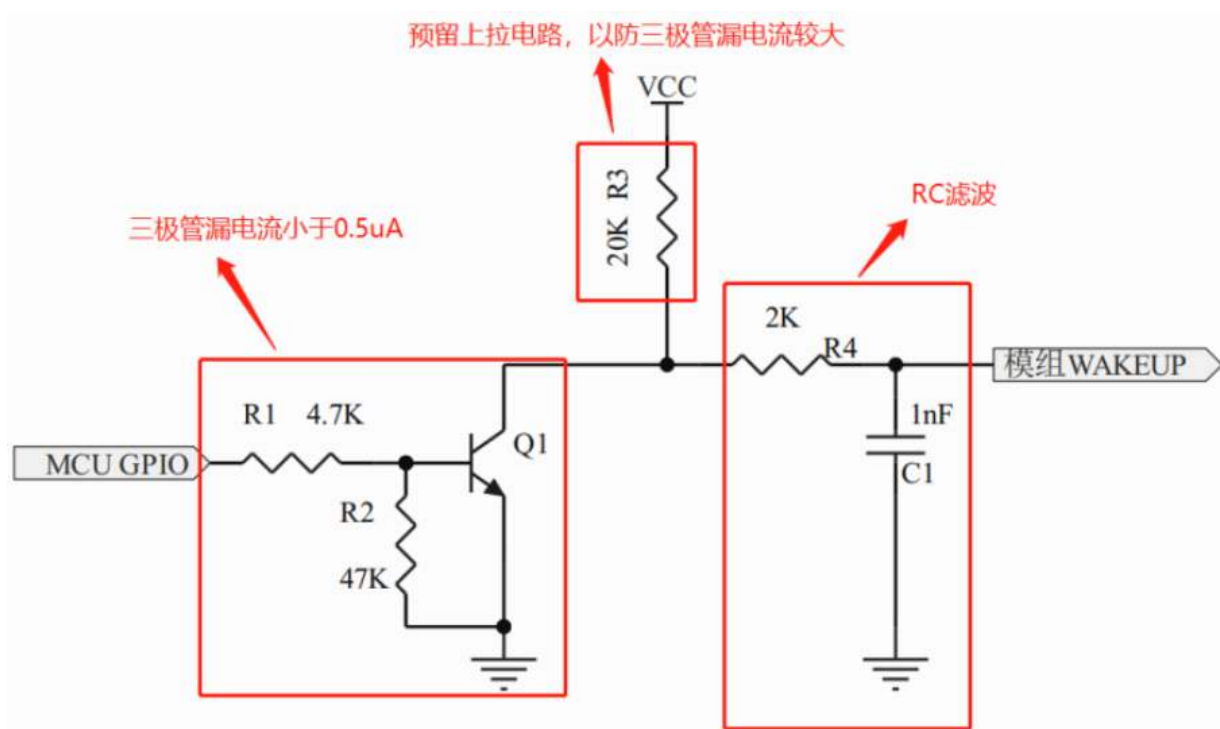

Figure 13 The WAKEUP pin reference circuit
1) If the user connects the AT serial port RXD with WAKEUP outside the module, and the WAKEUP also enables the wake up function (the RXD of module serial port 1 itself has WAKEUP function), then the module RXD cannot use the triode level conversion circuit, otherwise there will be abnormal wake up and dormancy. The RXD pin of NB chip has an anti-inverted design, and the MCU TXD voltage range can be solved by the RXD direct connection with the module (shown in Figure 13) within 1.8~3.6V.